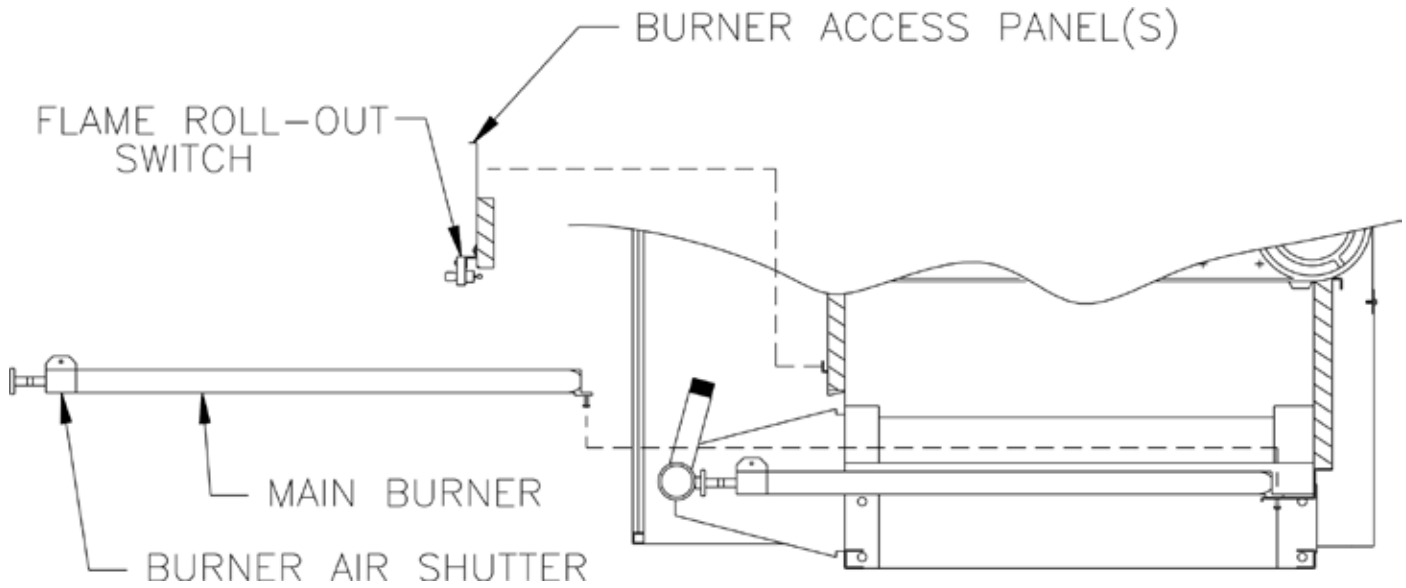

Figure 7: Burner/Burner Access Panel Installation
- J. Install Pilot/Main Burner Assembly.** See Figure 7. Assembly is located in Combination Boiler Parts and Control Carton. Verify assembly is properly located on support bracket in Base Rear Panel, seated on Main Burner Orifice, and secured with hitch pin clip.
- K. Adjust Burner Air Shutters on all Burners.** See Figure 7. Distance between front edge of Burner Air Shutter and burner mounting ring should be approximately 11/16". To adjust this distance, loosen screw at top of air shutter and slide into correct position. Then tighten screw.